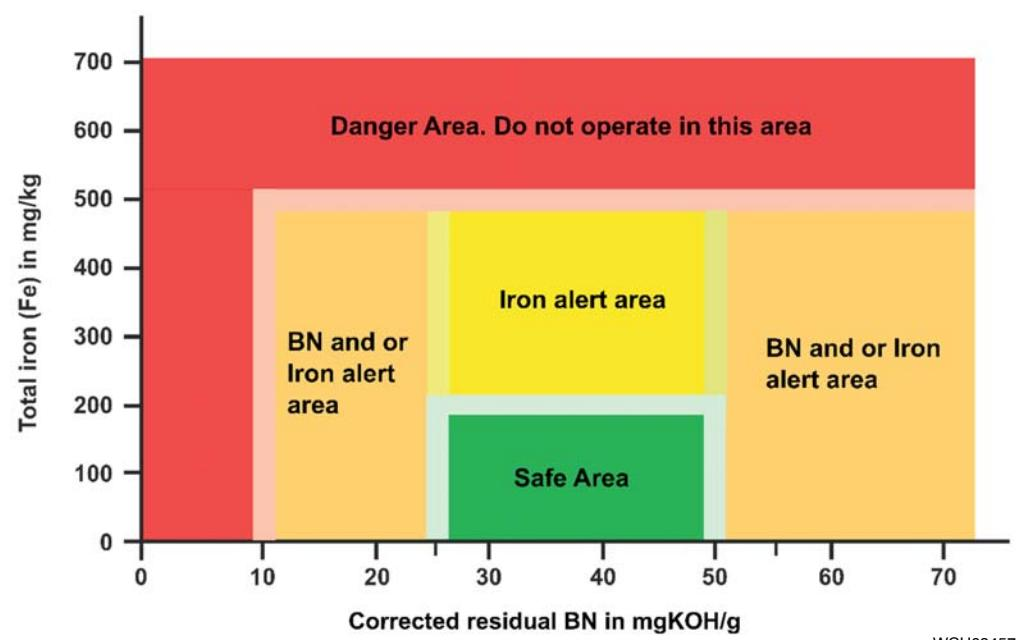

Fig. 2: Piston Underside, Scrape-down or Drip Oil Analysis Interpretation
When the analysis of the piston underside drain oil shows that the engine operates in the safe area shown in Fig. 2, you can adjust the feed rate and alkalinity of the cylinder lubricating oil. The permitted maximum feed rate is 1.2 g/kWh (see 7218-1 Cylinder Lubrication and 7218-3 Feed Rate – Adjustment). If the analysis of the piston underside drain oil shows that an adjustment to a higher feed rate than 1.2 g/kWh is necessary, you must change to a higher BN cylinder lubricating oil.
- You must obey the data given in Fig. 2.
- The safe corrected piston underside residual BN to prevent piston ring and liner corrosion is more than 25 mg KOH/g but less than 50 mg KOH/g (see Fig. 2).
Fig. 2 shows the operation ranges for engines with chrome ceramic piston rings and fully honed cylinder liners installed. It shows the relation between the piston underside total oil iron content and the residual BN. If necessary, the cylinder lubricating oil BN and/or feed rate must be adjusted to prevent excessive corrosion or magnetic iron in the piston underside oil.
Note: There are smooth transitions between the different areas shown in Fig. 2.